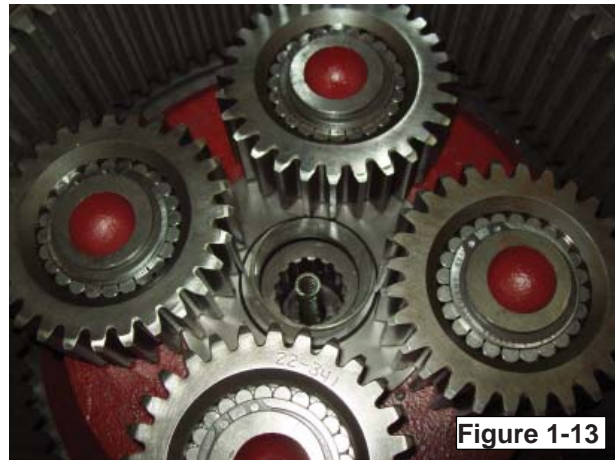

Figure 1-13
20. Ensure that the gear components are very clean before reassembly. Place the inner gear set to engage the housing over the spindle splines (FIGURE 1-13).
22. Place and align the drive shaft and outer gear. Ensure that the disconnect spring is properly seated in pockets (FIGURES 1-13 and 1-15).